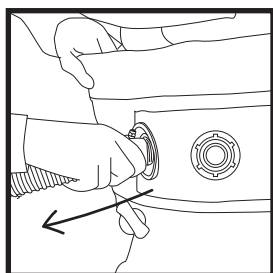

Fig. 4
8. Disconnect the pipe from the pump from the product, then turn the pump o (otherwise the air will escape from the product) (Fig. 4).